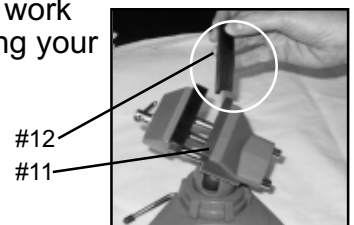

Figure 3
5. You can reposition your Hobby Vise again and again. The Replaceable Jaw Covers (#12) (See Figure 3) allows you to work on delicate projects without damaging your workpiece, making your Hobby Vise one of your most valuable tools.